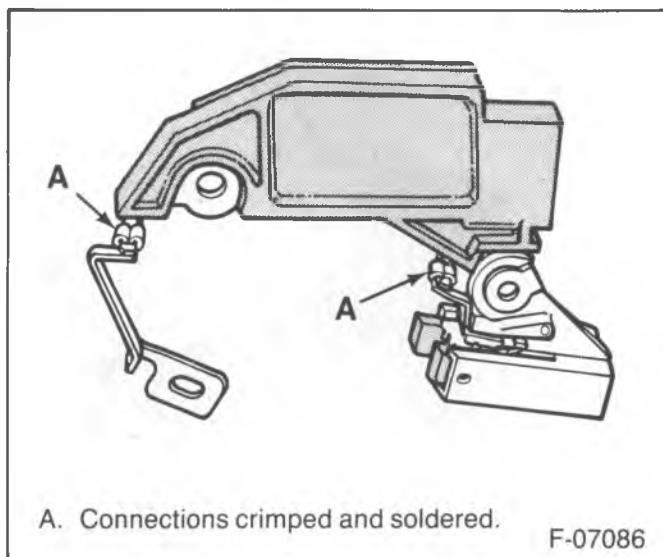

Figure 9—Regulator Connections
- 12. If the regulator, brush assembly or connector needs replacing, it will have to be unsoldered from the other two components. Use as little heat as possible to protect the regulator (figure 9).
- If the brush holder, regulator, or connector has been replaced, connect it by crimping the connector(s) to the other component(s). Then solder the connection using as little heat as possible to avoid heat damage to the regulator (figure 9).